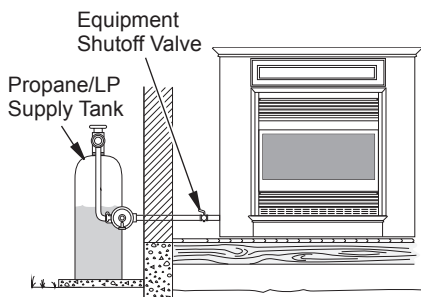

Figure 27 - Checking Gas Joints for Propane/LP Gas (Shown with Optional Mantel)
3. Check all joints from gas meter for natural or propane/LP supply to equipment shutoff valve (see Figures 27 and 28, page 19). Apply a noncorrosive leak detection fluid to gas joints. Bubbles forming show a leak.
4. Check all joints from equipment shutoff valve to thermostat gas valve (see Figures 27 and 28, page 19). Apply a noncorrosive leak detection fluid to gas joints. Bubbles forming show a leak.